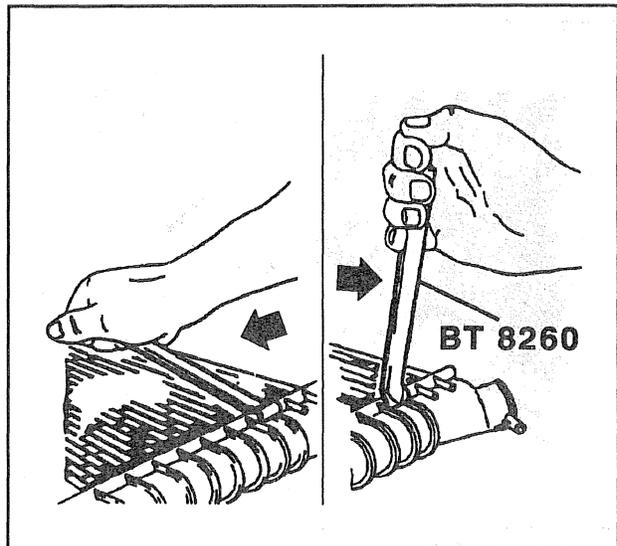
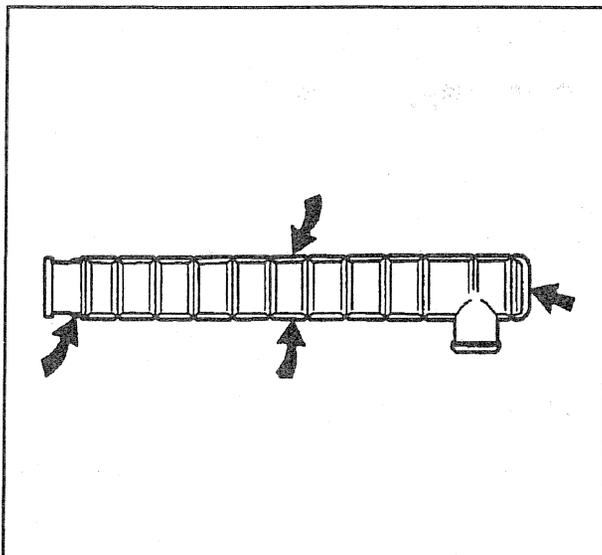

Figure 23—Opening the Clinch Tabs
Figure 25—Seating the Tank to the Radiator Tank
1. Pry open the clinch tabs, except those under the inlet, outlet, and filler necks, using BT 8260 Radiator Core Remover/Installer (figure 23) or a screwdriver (figure 25). Lift the tabs only enough to allow removal.
9. Position the tank and gasket to the header. Clamp it in place and secure it by bending four clinch tabs as shown in figure 25.